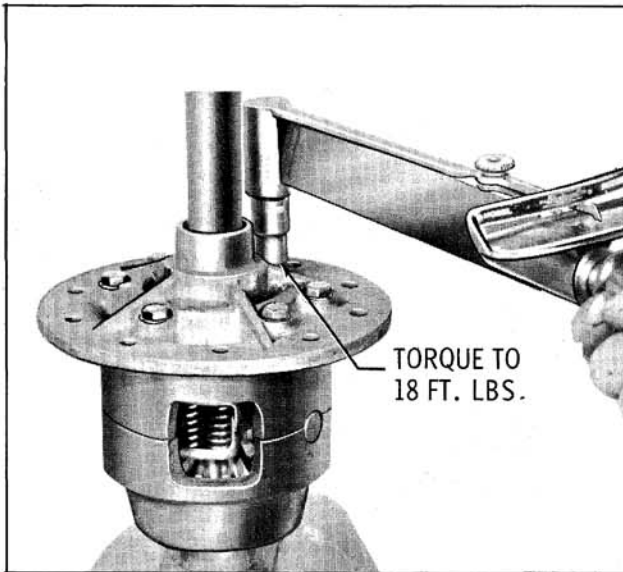

Fig. 10-46 Torquing Case Bolts
9. Install other axle shaft through flange half of differential case rotating axle to enter the cone and side gear splines. Leave the axle shaft in this position, then insert the remaining bolts. Torque to 18 ft. lbs. (Fig. 10-46)